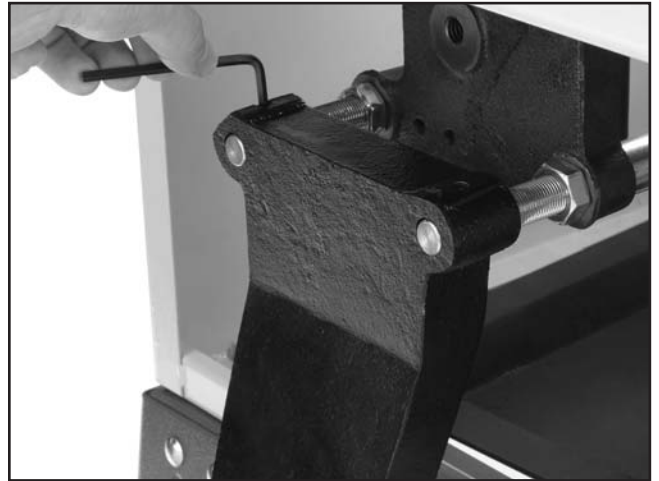

Figure 14. Installed motor bracket assembly.
3. Slide the motor bracket onto the shafts protruding from the back of the saw (**Figure 14**).